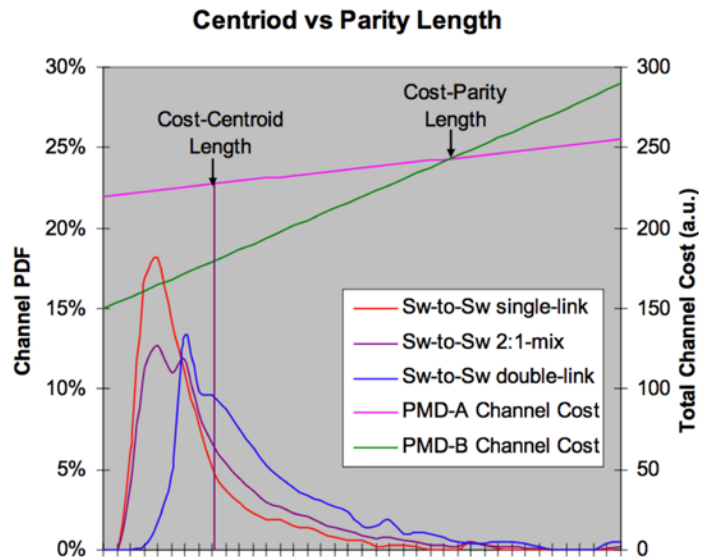

Figure 8: Estimating appropriate channel length based on topology.
**Total channel cost:** Comparing link costs between network types involves assessing the cost of the entire link—transceivers, trunks and patch cords. A variety of costing models have been developed to help compare the relative cost of different network link types. Some of these models, such as the one illustrated in Figure 8, provide guidance on the appropriate link lengths based on the topology selected and are useful when the average link-length is unknown. For example, the model indicates that the relative costs of the PMD channels A and B are equal at a length of approximately 230 meters. Therefore, knowing the link length enables us to determine the lower-cost solution.